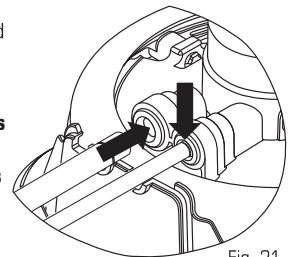

Fig. 21
5. Insert the GREEN and BLUE tubes attached to the eSpring Auxiliary Faucet into their proper locations on the Bracket (Fig. 21).